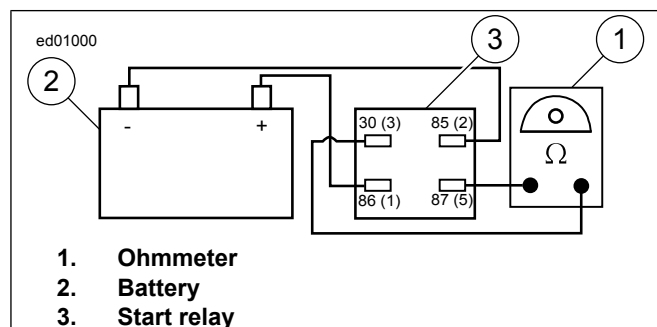
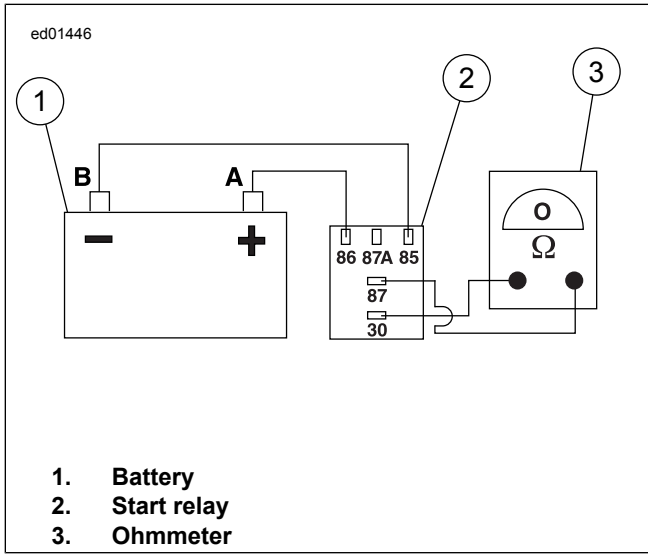

Figure 1-19. Four Terminal Relay Test
Figure 1-20. Five Terminal Relay Test
- See Figure 1-19 and Figure 1-20 to energize the relay. Connect relay terminal 85 to negative battery terminal and relay terminal 86 to positive battery terminal.